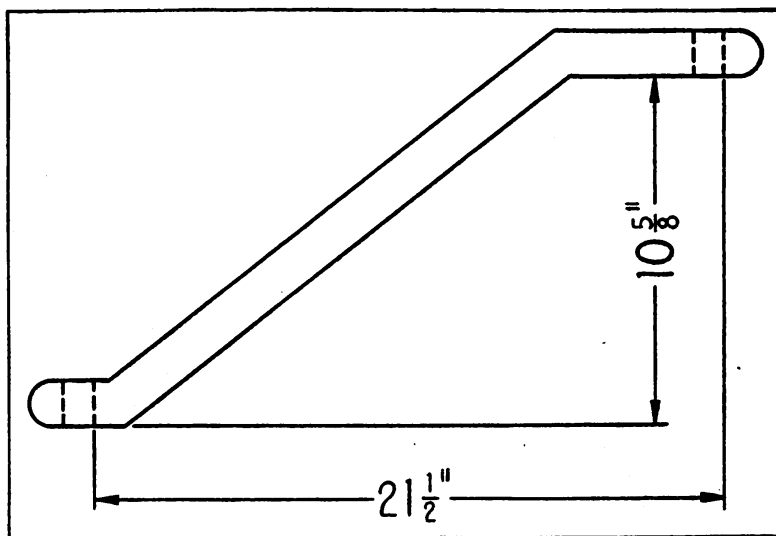

FIGURE 80. DIMENSION LAYOUT FOR SUPPORT CONNECTING RODS.
8. **CONNECTION ROD REPAIRS.**—Bent support connection rods may be heated and straightened. Measurement of the straightened rod should conform to the dimensions outlined in Fig. 80.